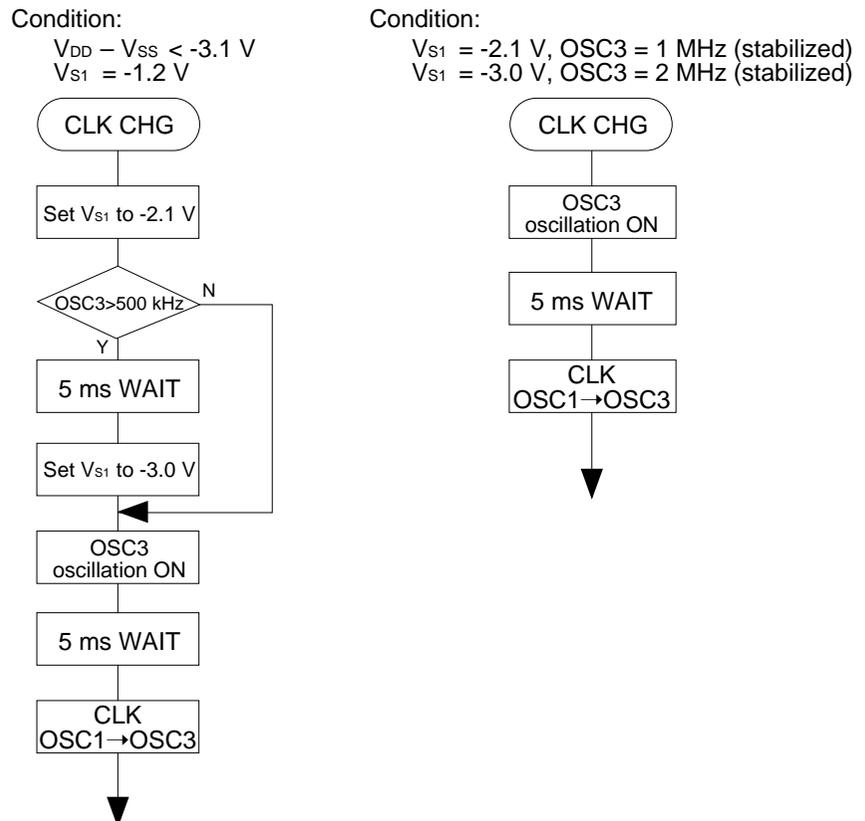

Fig. 5.5.1
*Note* When switching the CPU operating clock from OSC1 to OSC3, follow the flow chart shown in Figure 5.5.1 and then proceed with software processing.
- (4) When switching the CPU operating clock from OSC1 to OSC3, follow the flow chart shown in Figure 5.5.1 and then proceed with software processing.
- (5) Use separate instructions to switch the clock from OSC3 to OSC1 and turn the OSC3 oscillation OFF. Simultaneous processing with a single instruction may cause malfunction of the CPU.